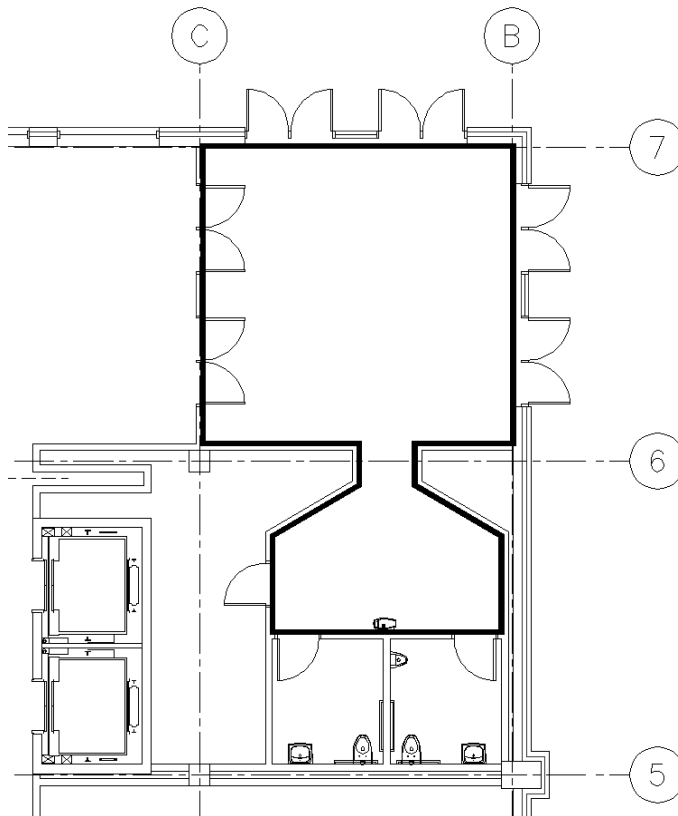

FIGURE 4-4.1 Adding a polyline at the vestibule
4. Using the **Polyline** command (see image to the right), draw an enclosed area in the Vestibule as shown in Figure 4-4.1.